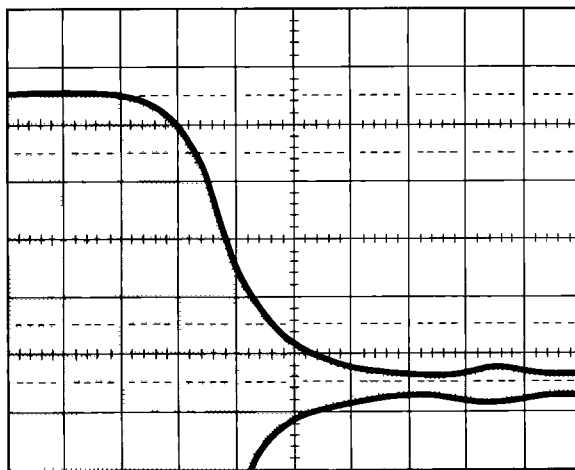

Figure 4-15. Pulse Modulation Fall Time Waveform
7. Adjust the oscilloscope horizontal position control to view the modulation envelope fall time. Position the waveform so that the modulation envelope crosses the 90% graticule at a vertical graticule line similar to Figure 4-15.